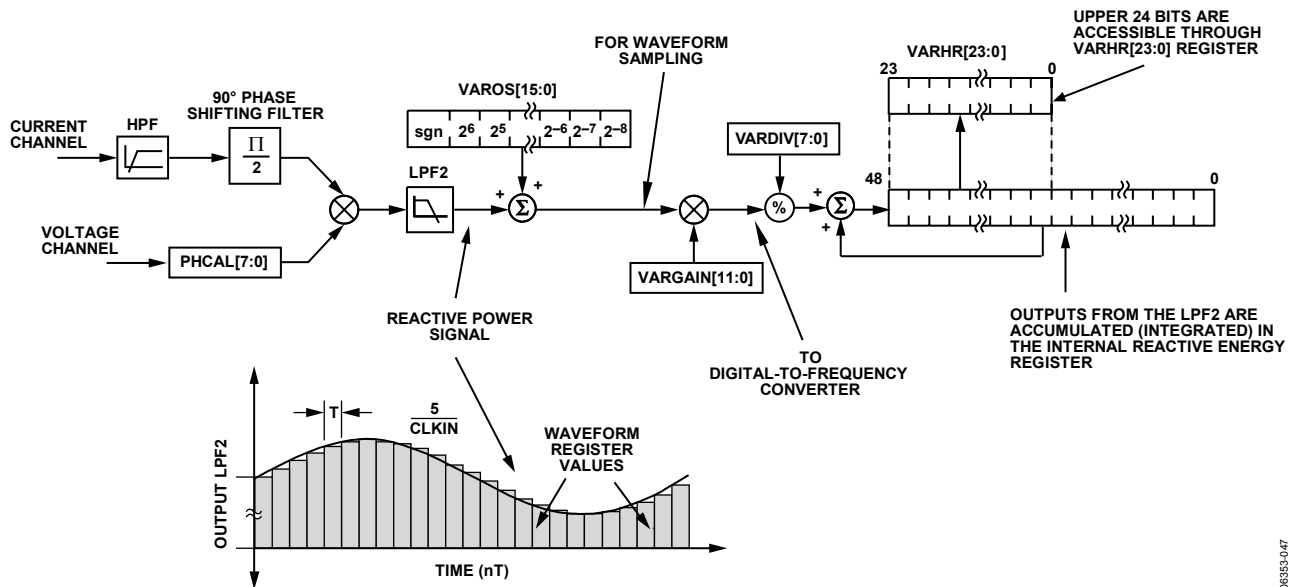

Figure 66. Reactive Energy Calculation
The instantaneous reactive power signal $q(t)$ is generated by multiplying the voltage and current channels. In this case, the phase of the current channel is shifted by 90° . The dc component of the instantaneous reactive power signal is then extracted by a low-pass filter to obtain the reactive power information (see Figure 66).
Figure 66 shows the signal processing chain for the ADE7569 reactive power calculation. As explained in the Reactive Power Calculation for the ADE7569 section, the reactive power is calculated by applying a low-pass filter to the instantaneous reactive power signal. Note that when reading the waveform samples from the output of LPF2, the gain of the reactive energy can be adjusted by using the multiplier and by writing a twos complement, 12-bit word to the VAR gain register (VARGAIN[11:0]). Equation 22 shows how the gain adjustment is related to the contents of the watt gain register.
The ADE7569 also incorporates a reactive power offset register (VAROS[15:0]). This is a signed, twos complement, 16-bit register that can be used to remove offsets in the reactive power calculation (see Figure 66). An offset can exist in the reactive power calculation due to crosstalk between channels on the PCB or in the IC itself. The offset calibration allows the contents of the reactive power register to be maintained at 0 when no power is being consumed.
The discrete time sample period (T) for the accumulation register in the ADE7569 is $1.22 \mu\text{s}$ ($5/\text{MCLK}$). As well as calculating the energy, this integration removes any sinusoidal components that may be in the active power signal. Figure 66 shows this discrete time integration or accumulation. The reactive power signal in the waveform register is continuously added to the internal reactive energy register.
As shown in Figure 66, the reactive power signal is accumulated in an internal 49-bit signed register. The reactive power signal can be read from the waveform register by setting the WAVMODE register (0x0D) and setting the WFSM bit in the Interrupt Enable 3 SFR (MIRQENH, 0xDB). Like the current and voltage channel waveform sampling modes, the waveform data is available at sample rates of 25.6 kSPS, 12.8 kSPS, 6.4 kSPS, or 3.2 kSPS.